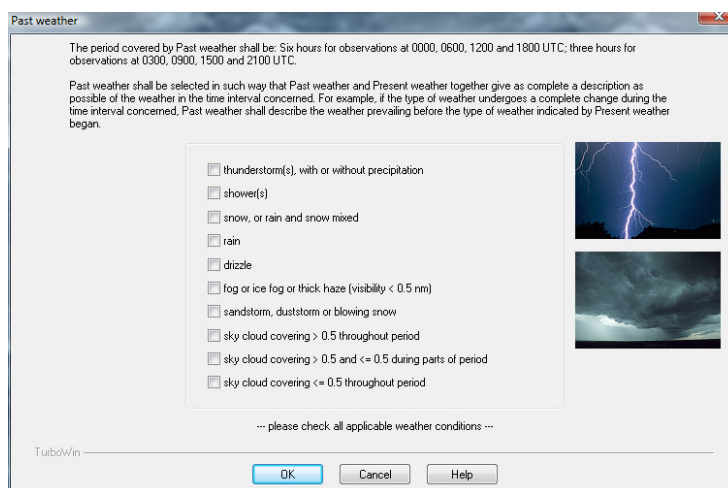

Figure 26. Past weather dialogue box.
- 10.10.2. Past weather is entered in the dialogue box shown in **Figure 26**.